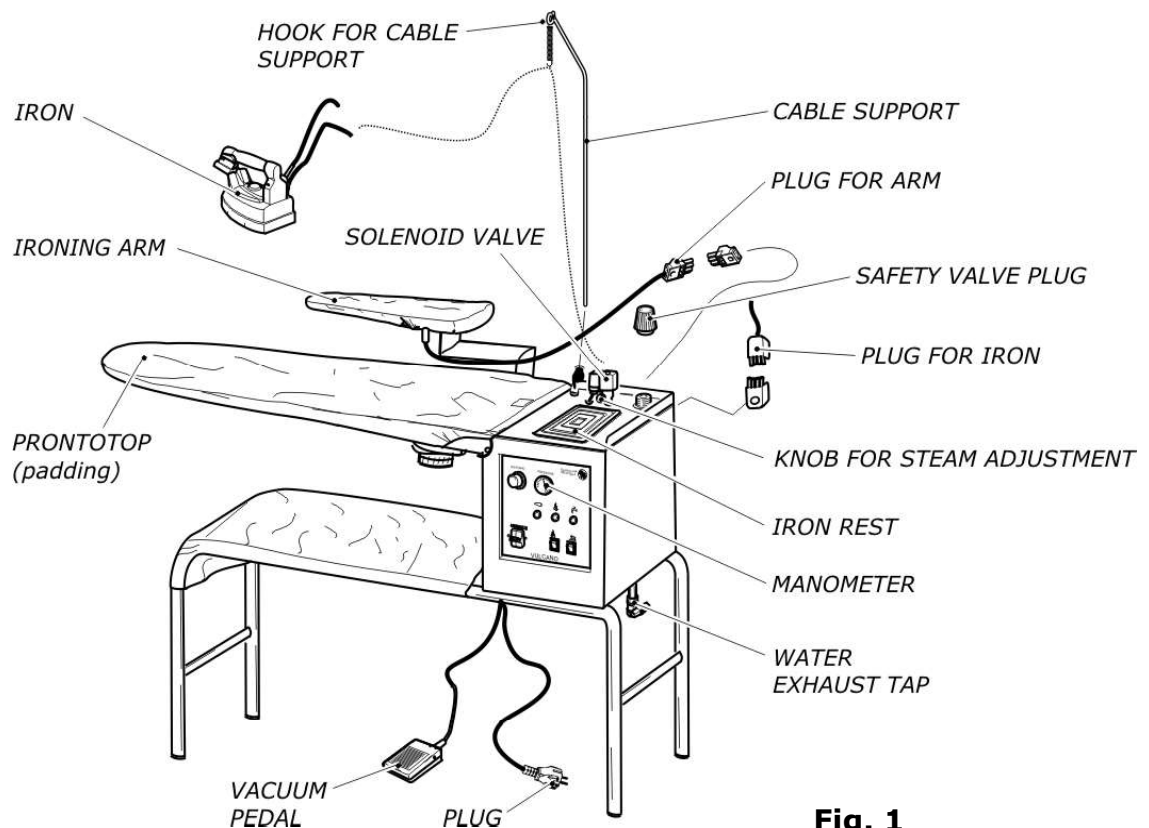
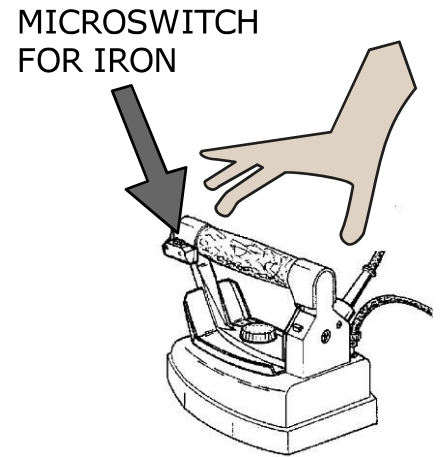
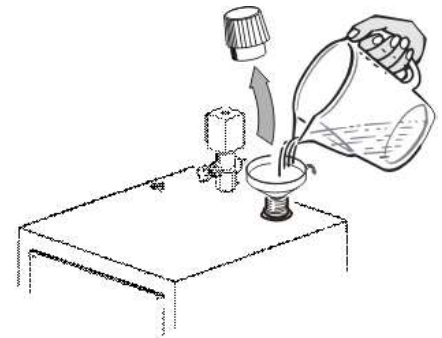

Fig. 1
Fig. 4
Fig. 5
2. Remove VULCANO from the box, insert the cable support deep into the special hole (fig. 1).
3. Fix the spring to the support hook, paying attention in order to avoid entwining (fig. 1).
4. Place the iron on the rubber iron rest supplied with the machine (fig. 1).
1. Unscrew the safety valve plug (fig. 1) and fill the boiler with water to the desired level by using a funnel, paying attention not to overfill it. Take the plug by the plastic part and screw it again: do not tighten too much or its gasket might get ruined (see section 7). **N.B. make sure the exhaust tap of the boiler is closed (fig. 1).**
4. Wait for the boiler lamp to switch off (fig. 2 D). Seize the iron by cork handle and press the red micro-switch for 4 or 5 times (fig. 4), so that steam comes out. It is important to make sure it is a saturated steam (by pressing the micro switch with the iron pointed downwards). You can adjust steam flux by turning the knob placed on the solenoid valve (fig. 1). Now everything is ready for ironing. During ironing operation, the boiler lamp switches on and off (fig. 2 D).
11. **Never replace the security valve plug (fig. 1) with other types of plug. N.B. the security valve plug is set at 4,5 BAR and it has the function of a security valve.**
1. Run the iron on garments, pressing the iron micro-switch for steam and the vacuum pedal at the same time (fig. 1). We suggest you to press the pedal a bit longer than the micro-switch in order to dry the garment.
3. During ironing, always put the iron on its rubber rest (fig. 1).
When the water in the boiler is finished, the "water missing" pilot lamp switches on (fig. 2 E). Unplug the machine, unscrew the safety valve plug just slightly (360°) (fig. 1) so that all the steam comes out (manometer at 0 BAR). Completely unscrew the valve plug with care and wait at least 5/10 minutes.
Then fill the boiler with water (fig. 5) paying attention not to overfill it (section 4.1). Screw the valve plug again (fig. 1), turn on the machine and wait for the boiler lamp to switch off (fig. 2 D). Now the iron is ready again.
Unscrew the valve plug and open the discharge tap (fig. 1), wait for all the water to come out and then close the tap again. The tap might get clogged: in this case, use an iron wire with a diameter of 3-4 mm to unplug it.
4. the safety valve plug every 2500 hrs. of ironing or maximum 3 years (fig.1).